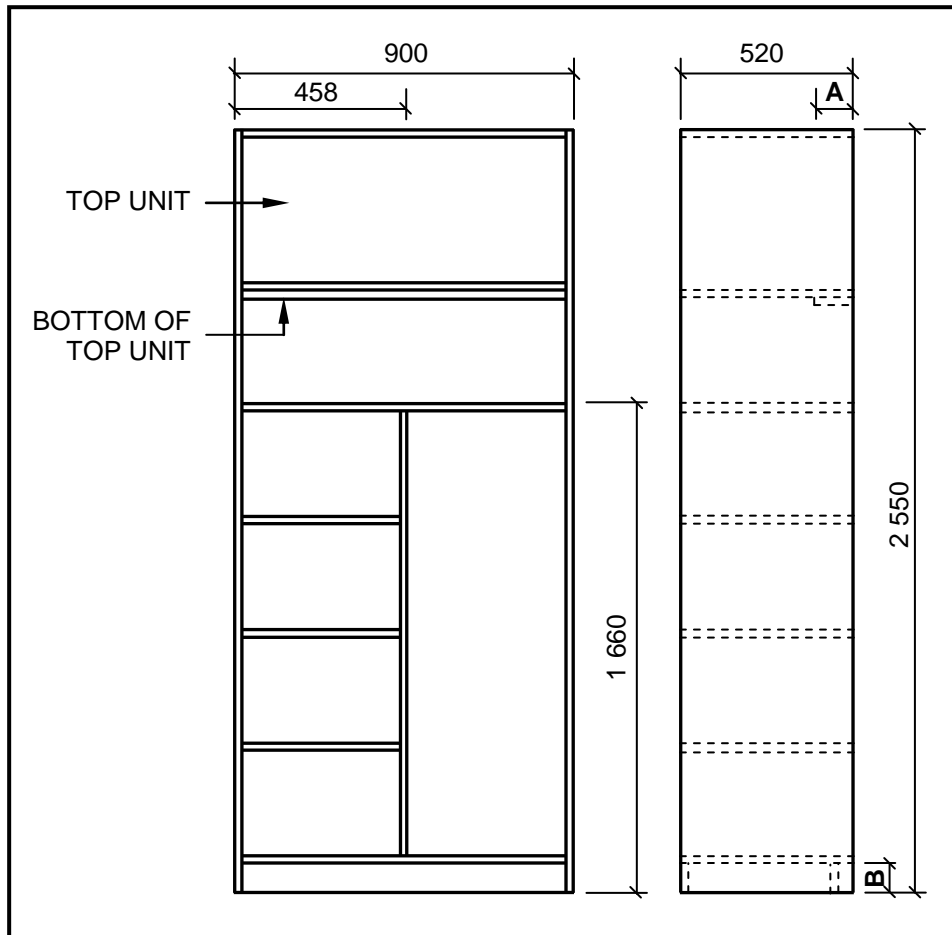

FIGURE 3.2
3.2 FIGURE 3.2 below shows the front and side elevation of a bedroom cupboard, without doors and a back board, fitted from the floor to the ceiling.